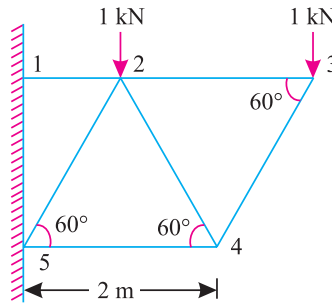

Fig. 14.23.
**Example 14.9.** Figure 14.23 shows a cantilever truss with two vertical loads of 1 kN each.